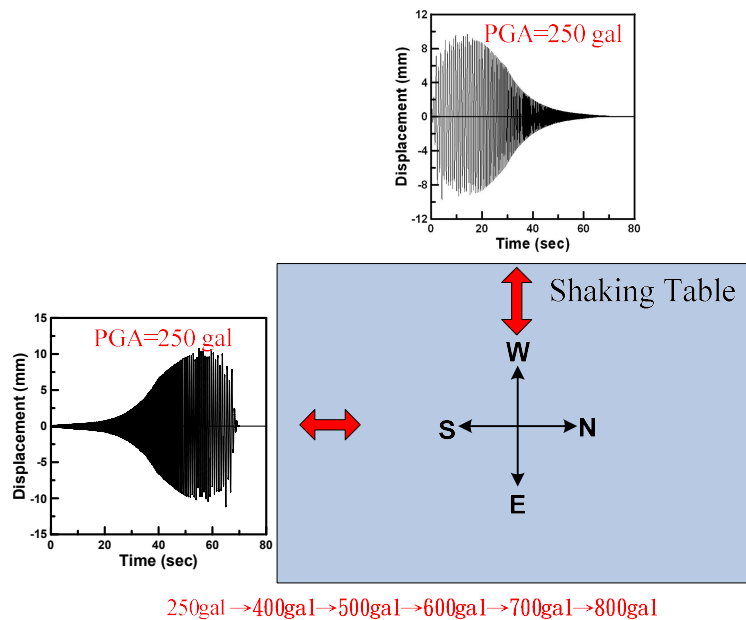

Figure 5. The E-W and N-S components of displacement time histories of the artificial earthquake with the PGA equal to 250 gal.
All models will be tested simultaneously on the shaking table. The artificial earthquakes generated by the shaking table contain a broadband of sweeping excitation frequencies. The intensity of each artificial earthquake is represented by using the peak ground acceleration (PGA). The PGA increases from one test to another. Figure 5 shows the two components of the displacement time histories of the artificial earthquake with the PGA equal to 250 gal.
8.5 The E-W and N-S components of displacement time histories of the artificial earthquake with the PGA equal to 250 gal are shown in Figure 5.